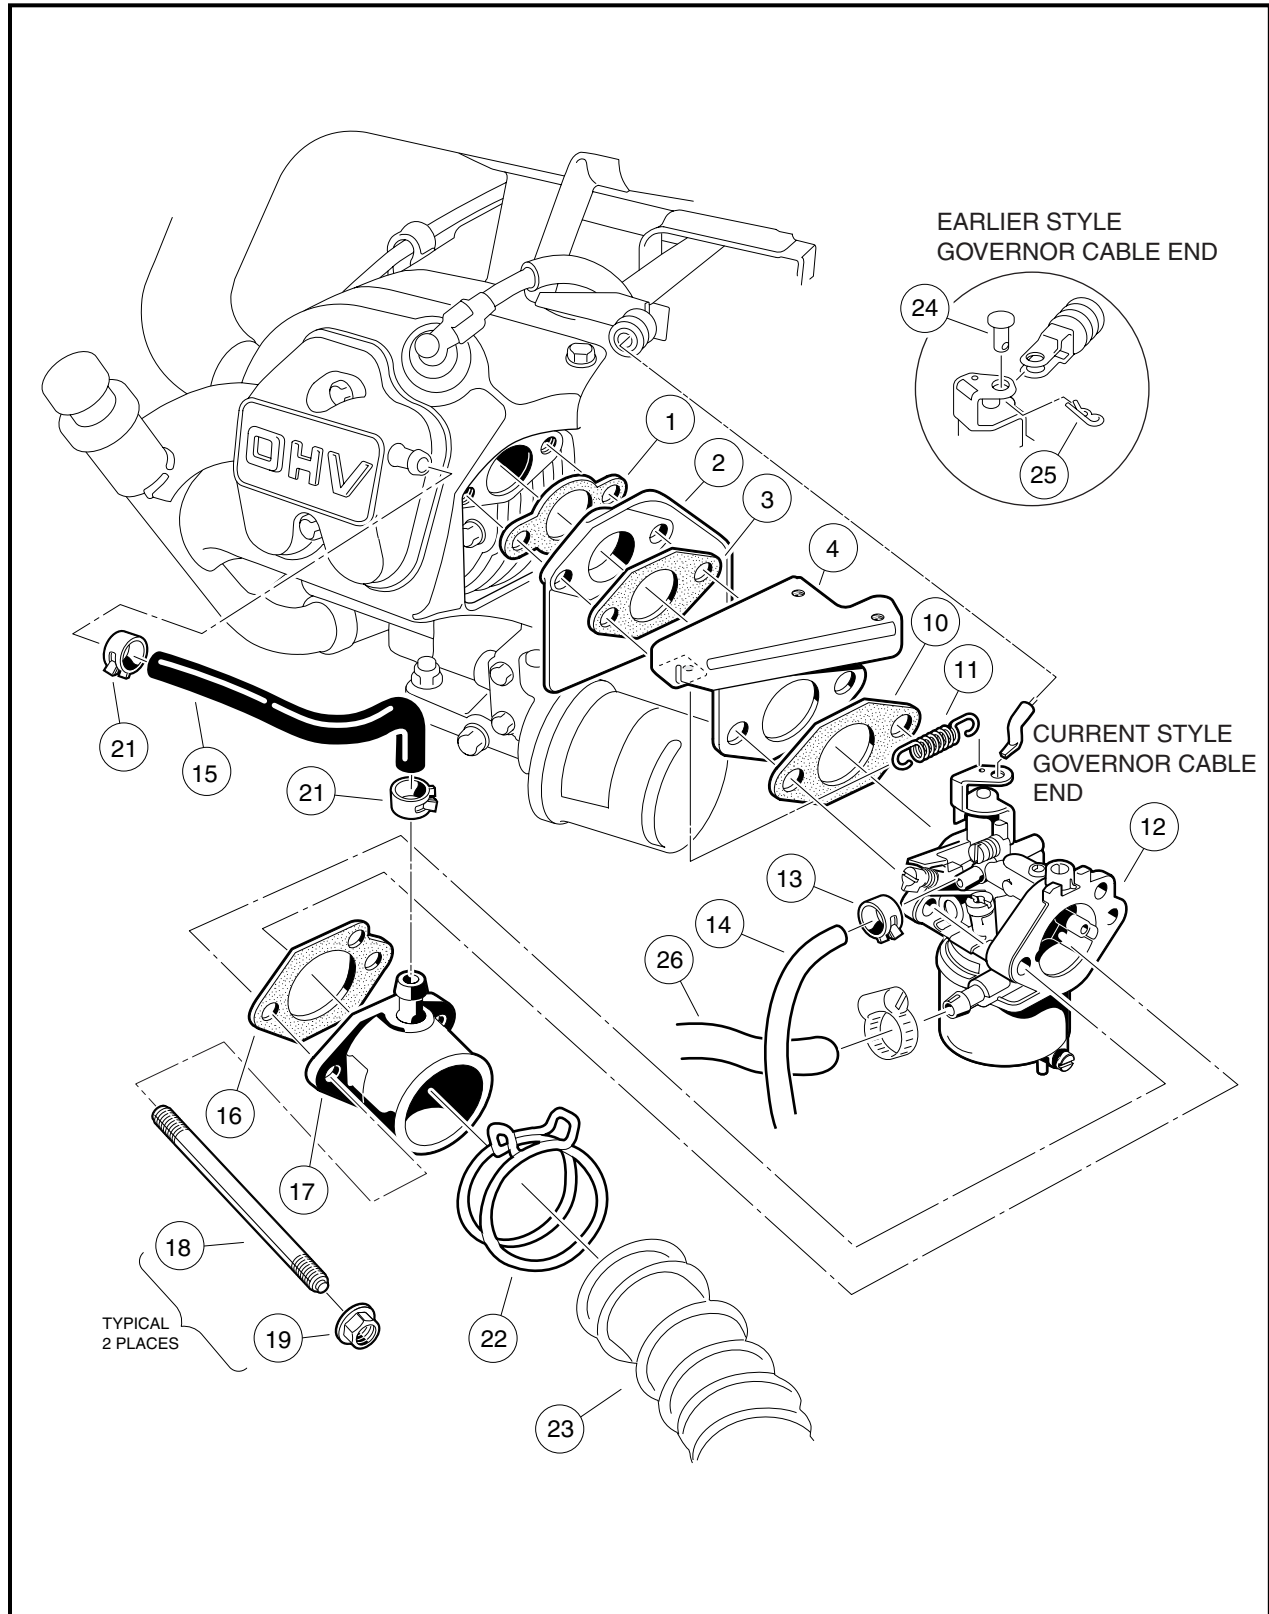
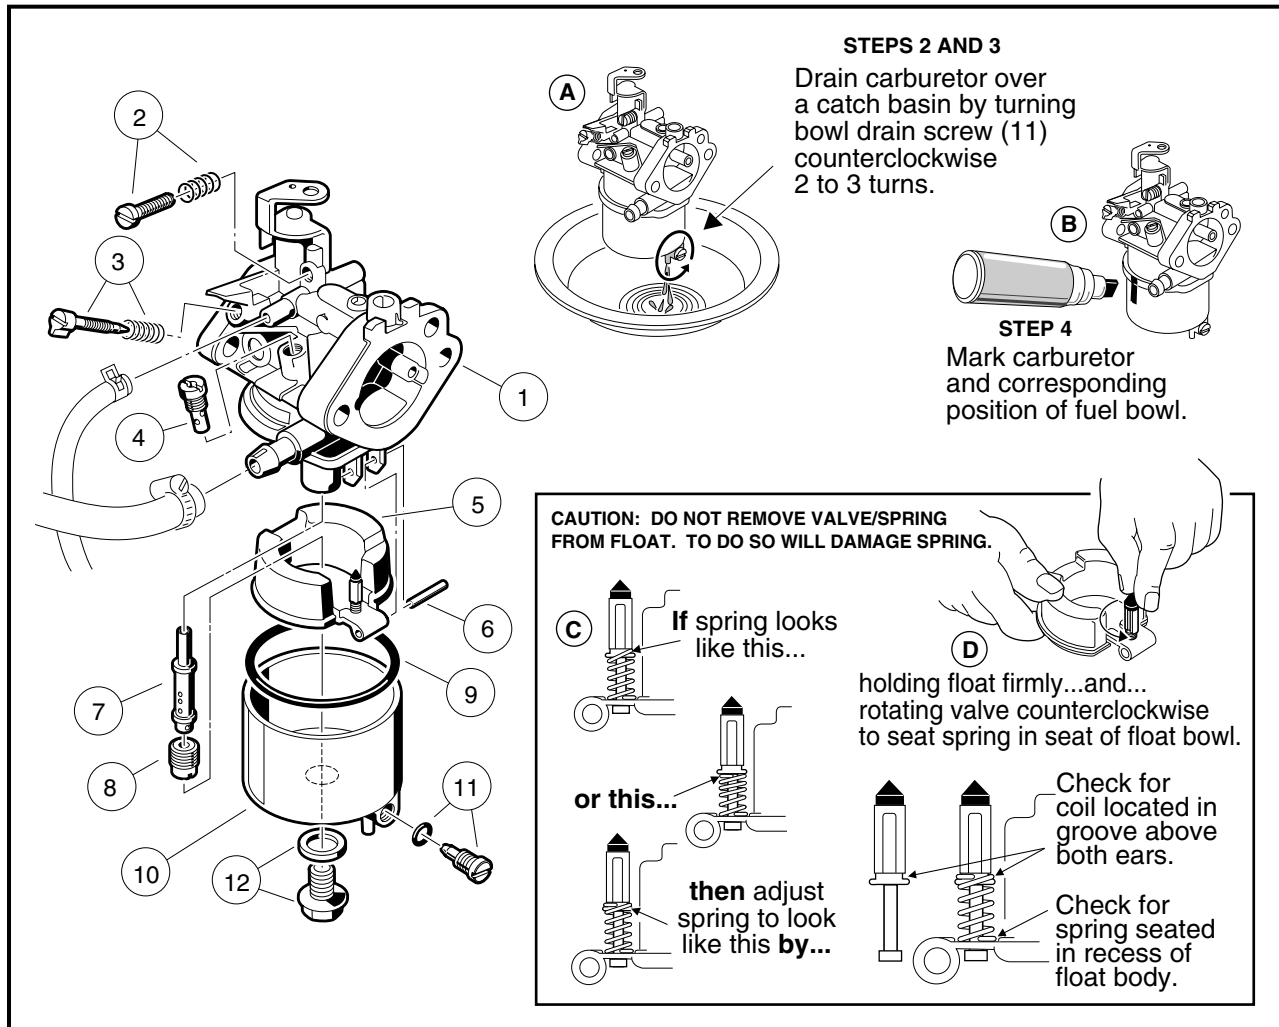

Figure 14-2 Carburetor Installation
Figure 14-3 Changing the Main Jet
1. Remove the carburetor (**Figure 14-2, Page 14-4**).
- 1.10. Remove the carburetor retaining nuts (19), intake pipe (17) and carburetor (12). **See following NOTE.**
**NOTE:** Note the orientation of the gasket (16), between the carburetor intake pipe (17) and the carburetor body (12) so that it can be replaced in the same orientation (**Figure 14-2, Page 14-4**).
*Disconnect the throttle return spring (11). Note the orientation so that it can be replaced the same.*
2. Position the carburetor with the drain screw (11) over a catch basin (**Figure 14-3, Page 14-5**).
5. Remove the carburetor fuel bowl retaining screw and washer (12), then remove the fuel bowl (10) and clean it with a nonflammable solvent. **See following NOTE.**
**NOTE:** Make sure the fuel bowl gasket (9) remains properly seated in the carburetor body when the fuel bowl is removed.
*During normal operation, the fuel bowl retains the float pivot pin (6). Make sure that the float pivot pin does not fall out of the carburetor body after the fuel bowl is removed.*
6. Remove the main jet (8) from the carburetor body and discard it.
**NOTE:** Keep the fuel nozzle (7) with the carburetor body after removal of the main jet by positioning the carburetor upside down during main jet removal.
12. Loosely attach the throttle return spring (11) to the carburetor throttle (12) and throttle bracket (4).
13. Install the carburetor (12), gasket (10), throttle spring (11), bracket (4), gaskets (1) and (3), and carburetor insulator (2) onto the manifold bolts (18) (**Figure 14-2, Page 14-4**).
14. Install the intake pipe gasket (16) (check for proper orientation) and intake pipe (17).
15. Attach the carburetor retaining nuts (19) and tighten them to 50 in-lb (5.7 N·m).
17. Connect fuel supply line (26) and tighten screw clamp to 9 in-lb (1.0 N·m) (**Figure 14-2, Page 14-4**).
18. Install carburetor vent line (14) and clamp (13).